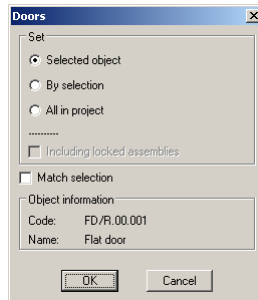

Fig. 5.28 Dialog window "Object replacement"
*product #B / *list #C / Select object example:* Specify an object to replace (here you define a sample). Clarify your selection in the dialog window, see fig. 5.28 page 253.
Note. The sample code and name are displayed in the bottom part of the dialog window, see fig. 5.28